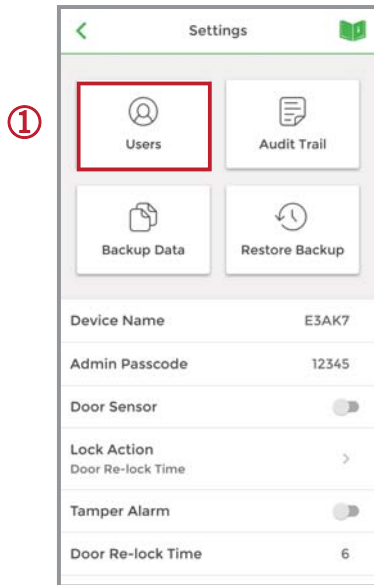

Figure 1
① **Users** : (See Figure 1 below)